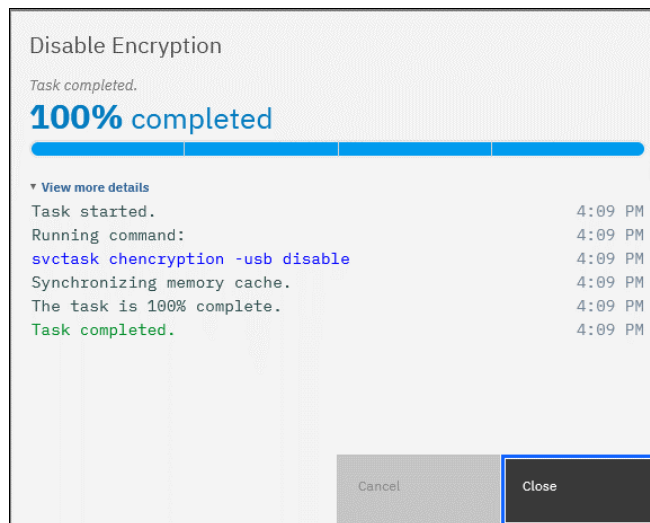

Figure 12-75 Encryption disabled
2. You receive a message confirming that encryption was disabled. Figure 12-75 shows the message when a key server is used.